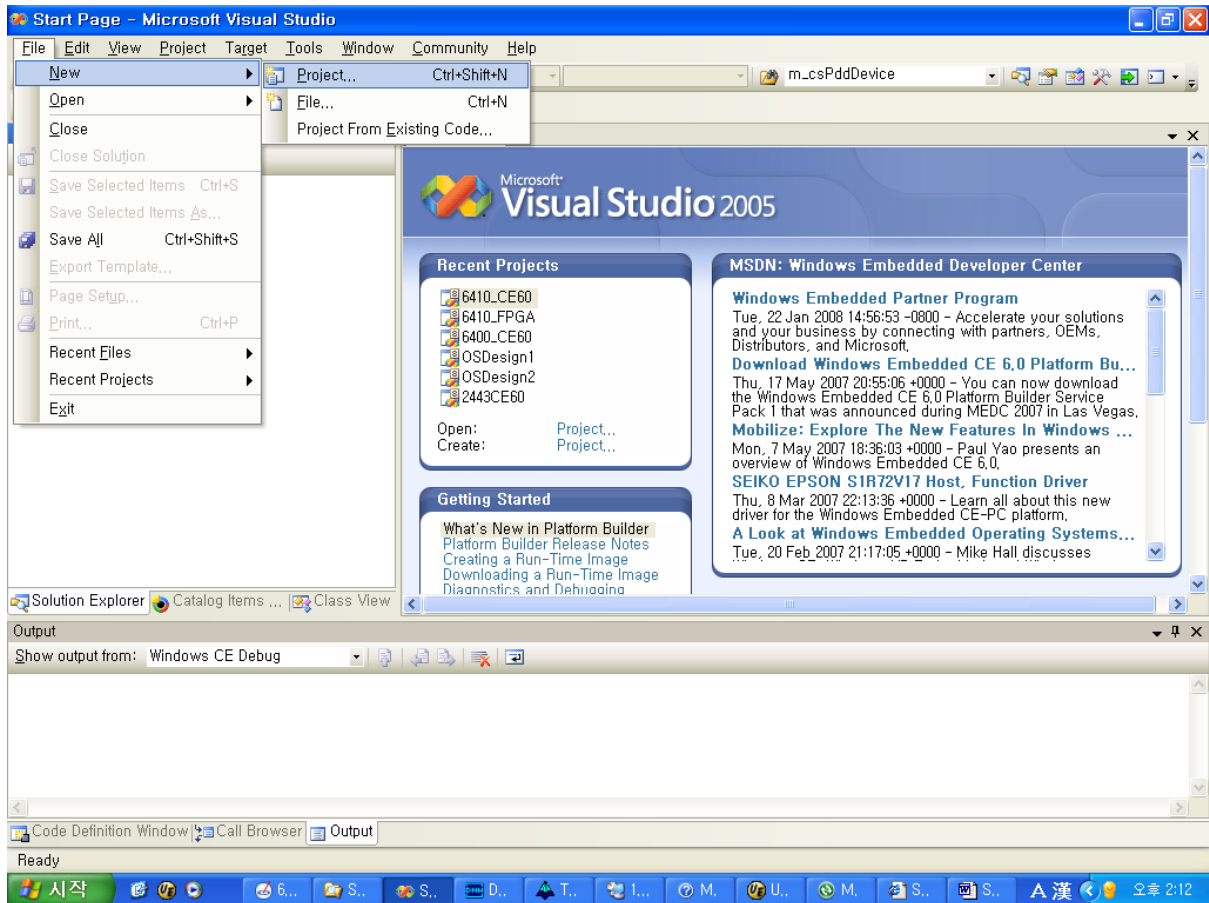

Figure 3-1 Creating New Project
| Figure 3-1 Creating New Project | 5 |
1. On the File menu in the Visual Studio 2005 window, click New /Project as shown in figure 3-1.